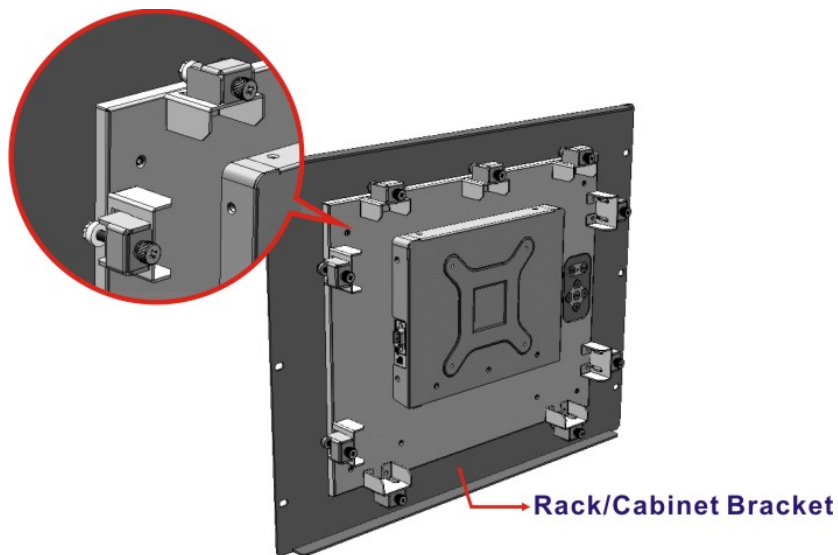

Figure 3-32: Secure the Rack/Cabinet Bracket
Step 3: Insert the panel mounting clamps into the pre-formed holes of the clamp holders (**Figure 3-32**).
Step 4: Tighten the screws that pass through the rack mounting clamps until the plastic caps at the front of all the screws are firmly secured to the bracket (**Figure 3-32**).